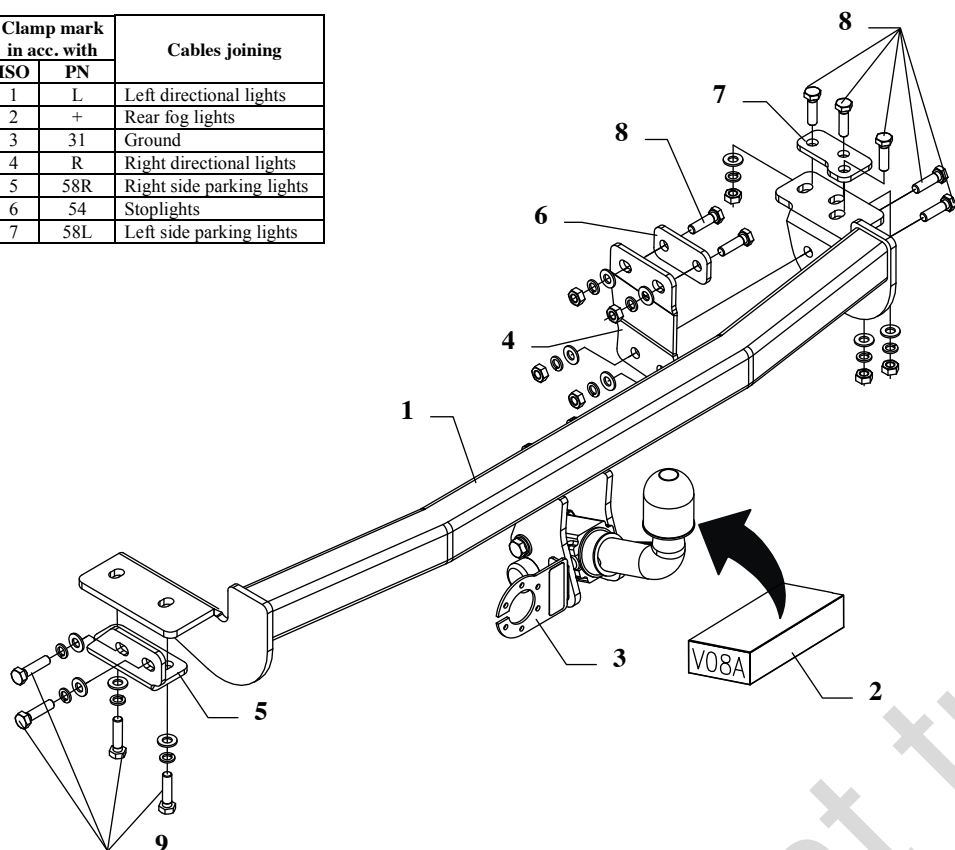

Fig. 1
6. Put main bar of the towbar (pos. 1) to chassis and fix as shown in the fig. 1, use angle element – pos. 5 (left side) and elements pos. 4, 6 and 7 (right side).
8. Fix body of the automat and place tow-ball according to supplied instruction. Note! Remember to place socket plate (pos. 3) as shown on the drawing 1.